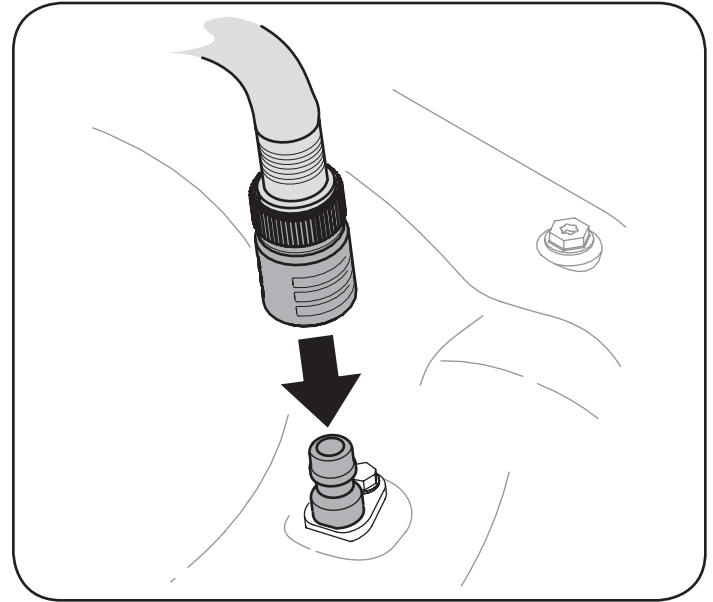

Figure 24
3. Attach the hose coupler to the water port on your deck's surface. See Figure 24.